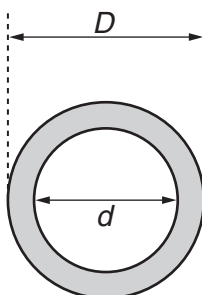

Fig. 2.3
- (ii) Measure and record the outside diameter D and the inside diameter d of the pipe, as shown in Fig. 2.3.